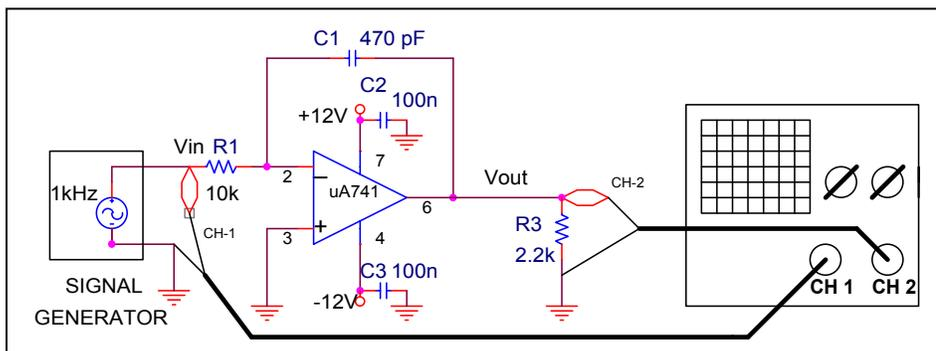

Figure 6.10 Integrator measurements circuit
- For a square wave signal source (for simulating Figure 6.10), use the Pulse Source with the square setting from the *Micro-Cap* library. The Pulse Source can be found under the
- [8 MARKS]** Simulate the real integrator circuit shown in Figure 6.10. Plot both the output and input waveforms for a *square waveform* input signal with $V_{in_{p-p}} = 0.4V$ at 1kHz.
3.1. Connect the circuit of figure 6.10 using an 8-pin uA741 op-amp, $R_1 = 10k\Omega$ and $C=470pF$. To achieve better circuit stability, connect 100nF capacitors between the pins #4 and #7 of the uA741 and the Ground, as shown in Figure 6.10.
Circuit of Figure 6.10 connected and equipment used correctly
15	Circuit of Figure 6.10 connected and equipment used correctly